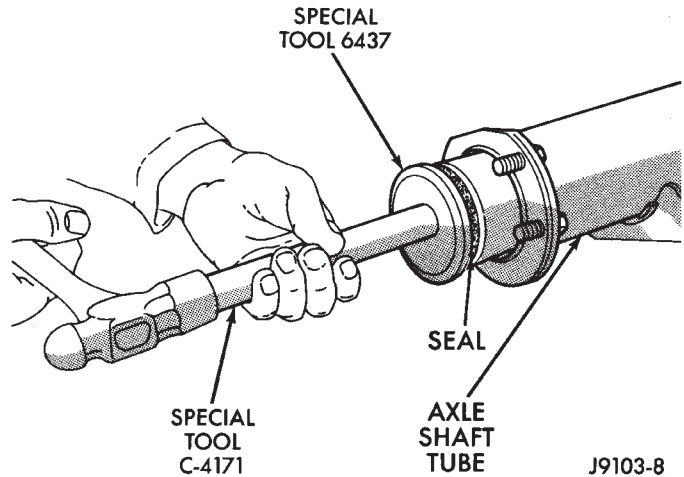

Fig. 22 Axle Shaft Seal Installation
- (1) Wipe the axle shaft tube bore clean.
- (2) Install axle shaft bearing with Installer 6436 and Handle C-4171. Ensure that the part number on the bearing is against the installer.
- (3) Install the new axle shaft seal with Installer 6437 and Handle C-4171 (Fig. 22).
- (4) Install the axle shaft.